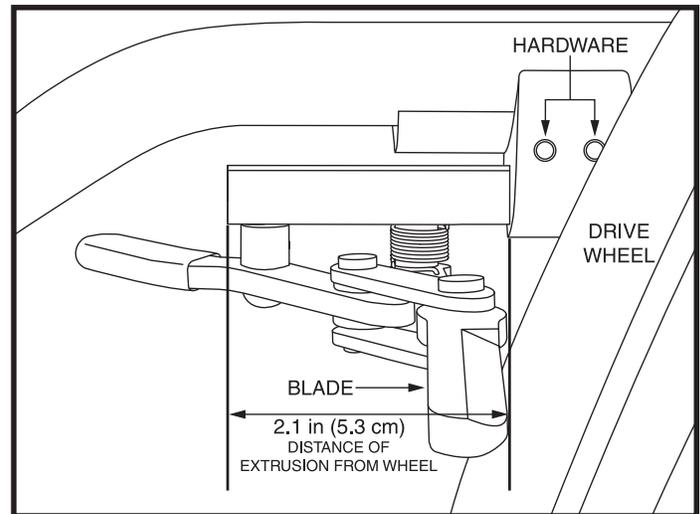

Figure 45. Scissor-style Wheel Lock Adjustment
1. Disengage the wheel lock. The front of the wheel lock extrusion that faces the caster wheels should be exactly 2.1 in. (5.3 cm) from where the wheel lock blade makes contact with the plane of the drive wheel. See figure 45. This applies to both solid and pneumatic tires.
2. Loosen the hardware that fastens the wheel lock to the frame. See figure 45.